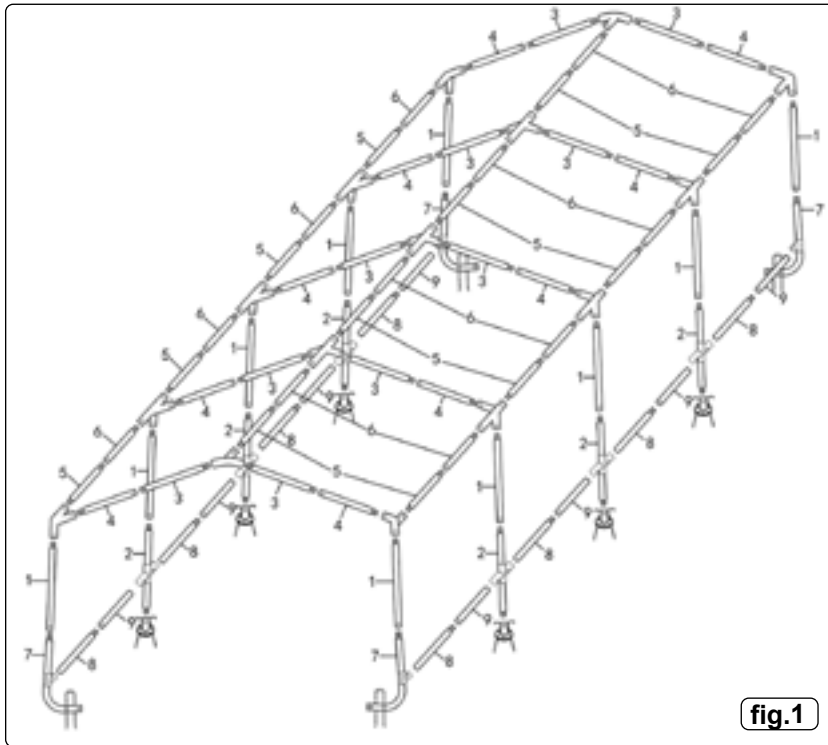

fig.1
- 5.2.3. Fix the shelters feet (item 14, fig.1) in position using the supplied stakes (item 16, fig.1).
- 5.2.4. Fix the shelters corners (item 7, fig.1) in position using the supplied stakes (item 20, fig.1).